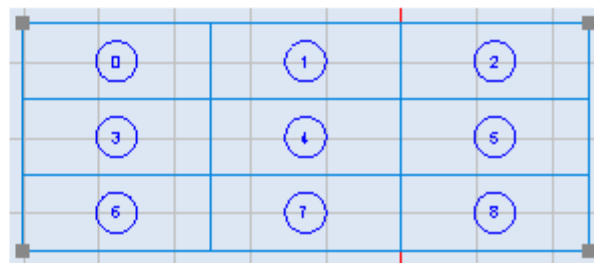

Figure 526: Examples of the Vertical and Horizontal Tiling Orientation
- **Vertical** – specifies that the tiling will be done vertically as shown in the example on the left side of Figure 526 (below). (Note that the cells in the example are in vertical sequences.)
- **Horizontal** – specifies that the tiling will be done horizontally as shown in the example on the right side of Figure 526 (below). (Note that the cells in the example are in horizontal sequences.)